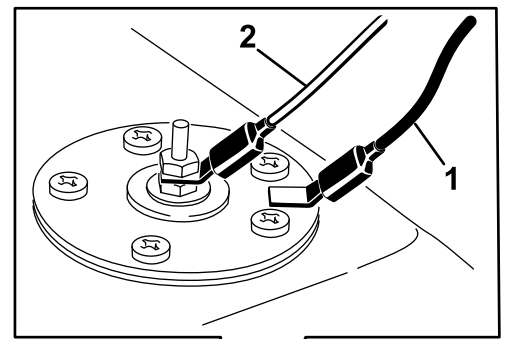

Figure 65
12. Disconnect the 2 wires leading to the right side of the tank (Figure 65).
21. On the right side of the tank, connect the orange wire to the center post and the black wire to the outside post (Figure 65).